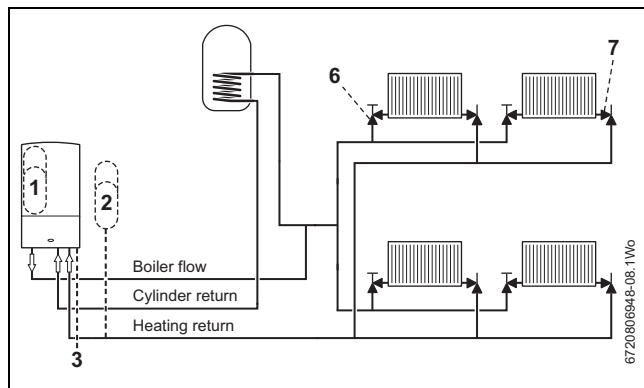

Fig. 3 General pipe layout
Legend to figure 3:
In all cases the cylinder manufacturer must be contacted for confirmation their product is suitable for the installation layout shown in figure 3.
- The general layout (figure 3) can be used for unvented cylinder by utilising the high limit thermal cut out of the cylinder dual-thermostat to interrupt the permanent live to the appliance, preventing any heat being produced from the appliance. Wiring example → section 4.2.6, page 18.
Table 8 Key to figures 3 & 4